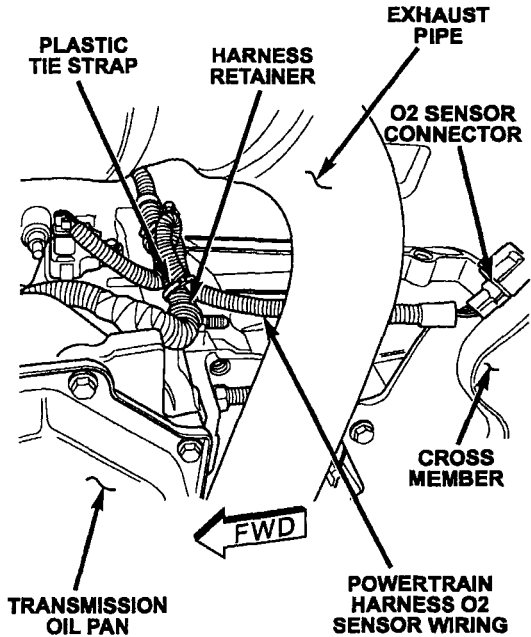

Figure 5
- 26. Tie strap the excess length of the repaired oxygen sensor wiring to the main trunk of the powertrain harness just above the mounting bracket of the transmission as shown in Figure 5.